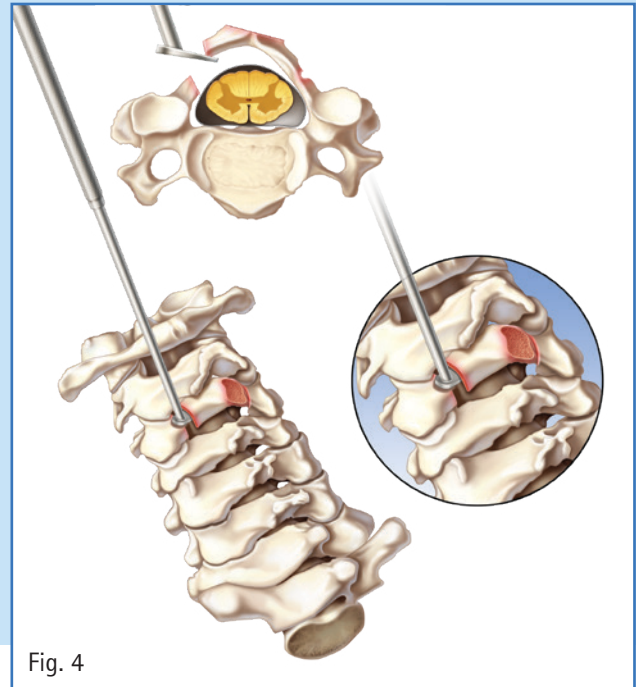

Fig. 4
- Utilizing the lamina lifter, lift the lamina away from the spinal canal (Fig. 4).